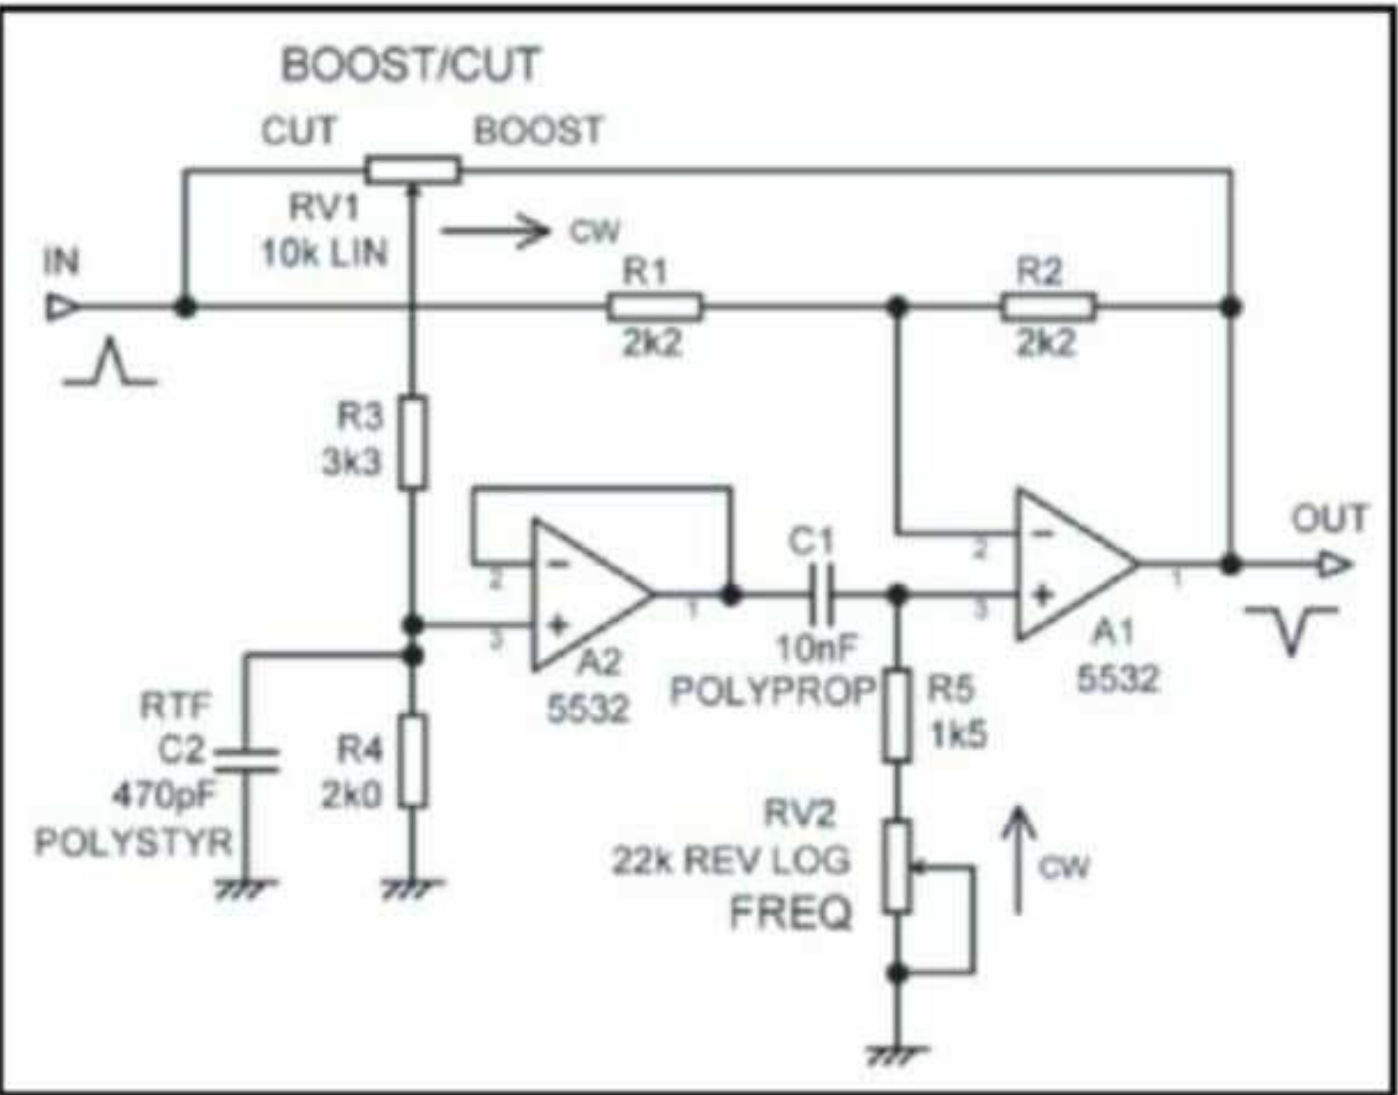

Figure 2: The variable-frequency high-frequency shelving circuit after optimization
Step 5: Reducing the impedance of the frequency selective network C1, R5, VR2 looks promising; obviously both resistors and the capacitor need to be scaled to keep the frequency response the same. In **Table 6** we halve the impedance, gaining about 1dB, and in **Table 7** we halve it again, gaining another 0.8dB. **Table 8** takes it about as far as it can be pushed, due to the loading effect of R5 on A2 at minimum frequency, and the further noise reduction is only some 0.3 dB. Given that 15kΩ pots are not going to be easy to find, Table 7 looks like the best result. The optimized circuit is shown in **Figure 2**. Capacitor C1 should be polystyrene or polypropylene to avoid distortion. Just by changing component values and op-amps, the noise set flat at minimum frequency (worst case) is reduced from -94.5dBu to -107dBu, an improvement of no less than 12.5dB without extra cost.
The final re-designed stage is shown in Figure 2, and the response at the frequency extremes is shown in Figure 3. The lower frequency curve shows the start of RTF action at 20kHz. When the equalizer is set to flat with a 3Vrms input, THD remains at 0.0004% from 20kHz down to 10Hz.